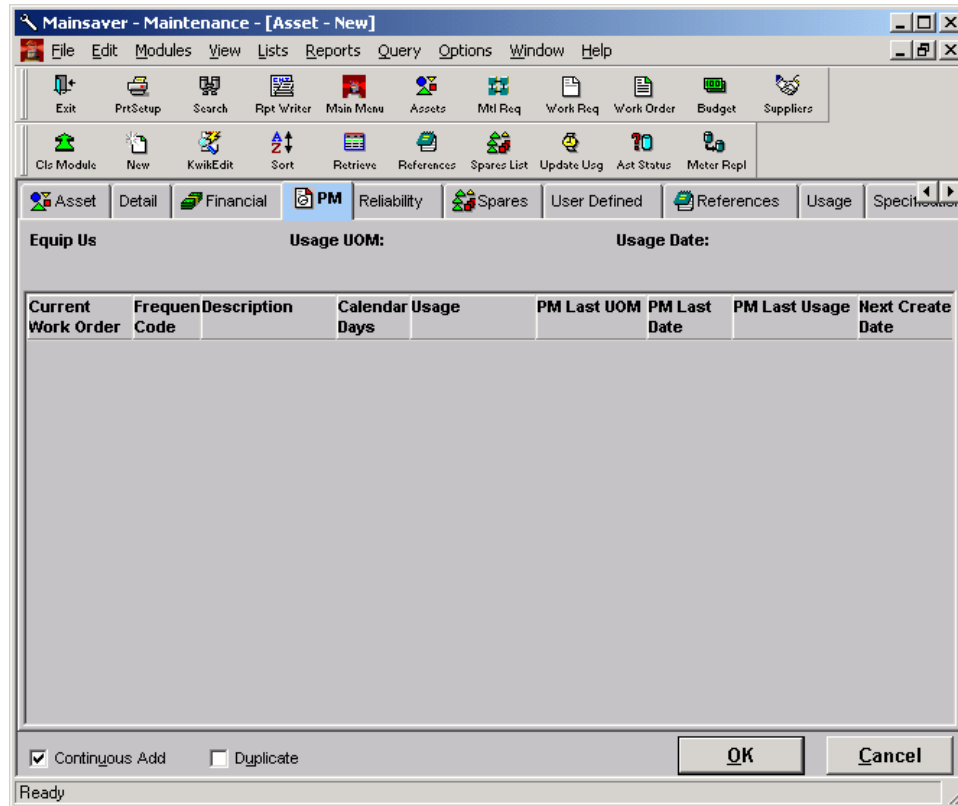

Figure 7 PM (preventive maintenance) tab.
The PM tab (Figure 7) is a display-only page that shows the current preventive maintenance (PM) information about the asset if any is available.